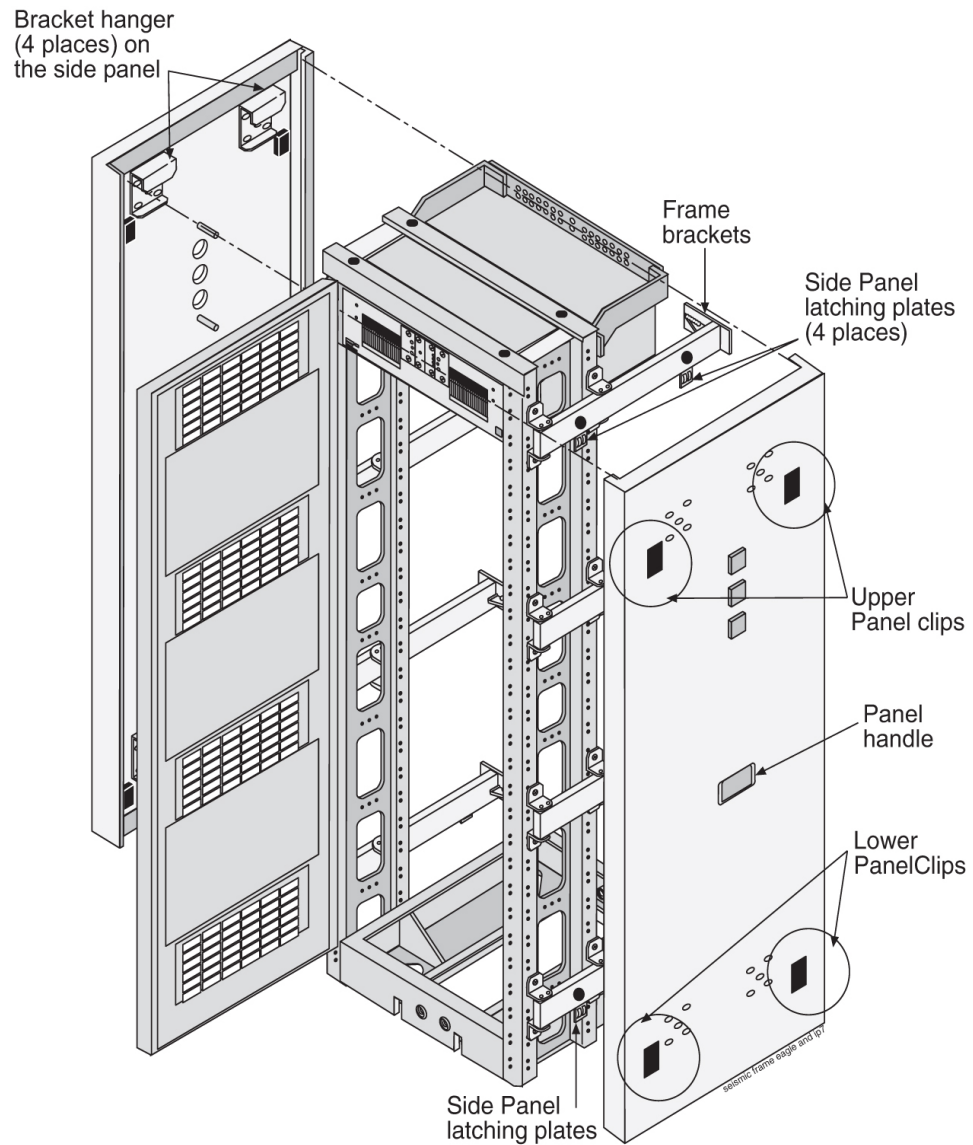

Figure 24: Heavy Duty Frame Panels
3. Grasp the handle in the middle panel and lift the panel off of the frame bracket shown in Figure 24: Heavy Duty Frame Panels .